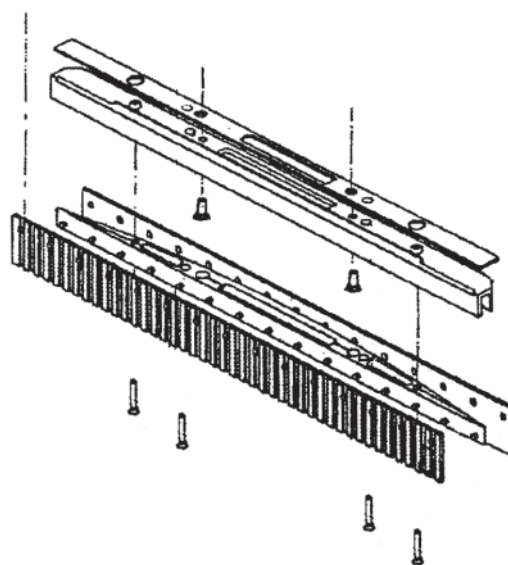

Figure 6
1. Turn the main switch (2) to "0".
5. Remove the two screws from the squeegee (Fig. 6).